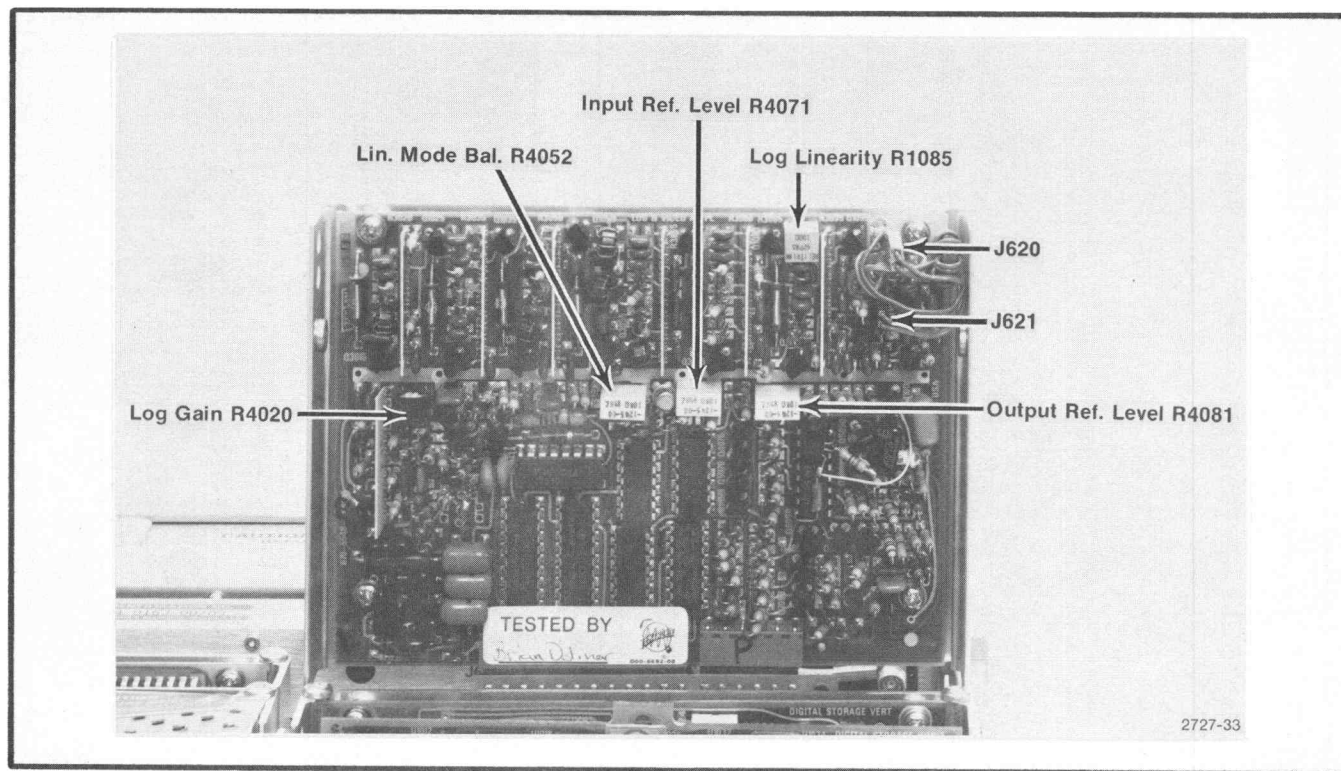

Fig. 3-40. Location of connectors and adjustments on the Log and Video Amplifier.
b. Apply a 10MHz signal of 0dBm from the signal generator, through 10dB and 1 dB step attenuators, to the input of the Log Amplifier at J621 (Fig. 3-40). Set the step attenuators for 50dB of attenuation.
e. Increase the step attenuators in 10dB steps. Adjust Log Gain, R4020 (Fig. 3-40), so each 10dB of change produces a division of change on the display.
g. Alternately switch the Vertical Display between 10dB/DIV and 2dB/DIV while adjusting Input Ref Lvl, R4071 (Fig. 3-40), for minimum amplitude change between the two displays.
j. Adjust Output Ref Lvl, R4081 (Fig. 3-40), for a full screen (8 divisions) display.
k. Switch to the 10 dB/DIV mode and set the step attenuators for 40 dB. Adjust Log Linearity, R1085 (Fig. 3-40), so the display is mid-screen.
s. Switch the vertical display to LIN and adjust Lin Bal, R4052 (Fig. 3-40), for a full screen display. Display amplitude of LIN, 2 dB/DIV , and 10 dB/DIV display should now be the same.
2. Connect the output of VR#2 (J682) through a coaxial cable to the input of the Log Amplifier at J621 (Fig. 3-40).
l. Now disconnect the 10MHz third converter signal (P693) from the VR#2 input and connect it to the input of VR#1 (J693), through the Sealectro male-to-male adapter and coaxial cable. Connect the output of VR#1 (P683) through another Sealectro male-to-male adapter and coaxial cable to the input of the Log Amplifier at J621 (Fig. 3-40).